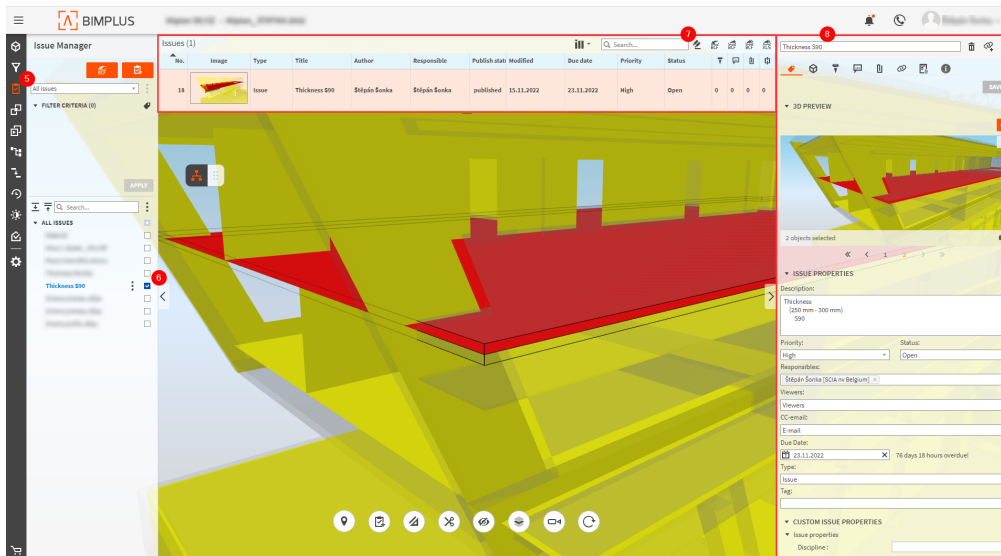

Figure 44: Bimplus viewer with opened issue
5. Once in the viewer, click on the Issue manager icon in the right tab. (Figure 44)
6. Select the issue from the issue list. (Figure 44)
7. On the top there are listed activated issue, with possibility to export issue to BCF and XLS format. (Figure 44)
8. In the right issue property bar you see your previously inputted data like description, priority etc. These fields can be edited here as well. (Figure 44)